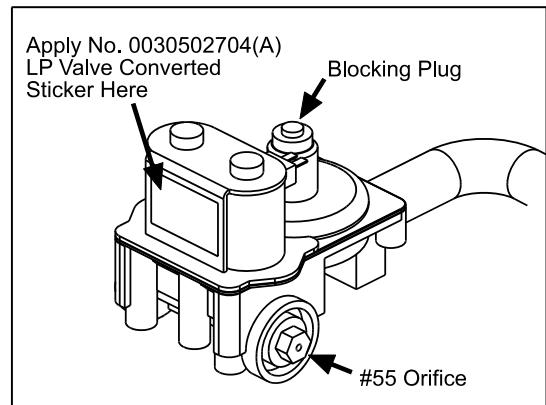

Figure 5
- Use a 3/8" box wrench to remove the existing main burner orifice. Install the new main burner orifice No. 55. (Figure 5). Torque the new orifice to 30 in-lbs (3.4 N-m).
- Remove the vent screw from the top of the gas valve. Install the new regulator blocking plug finger tight, then tighten it no more than 1/8 turn to seal it. (Figure 5)
- Apply No. 0030502704 LP Gas Valve Converted Sticker over the existing valve label. (Figure 5) In Canada, apply No. 0030502704A (French).